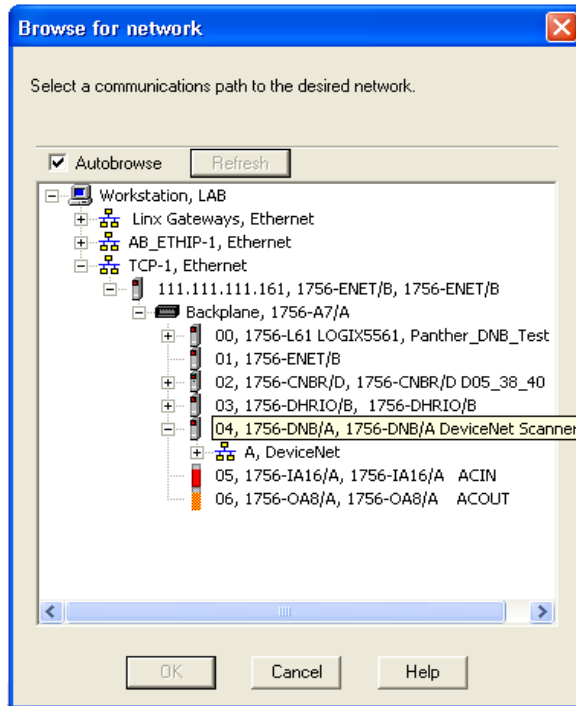

Figure 4-18: Browse for network
2. Select the appropriate network path. In this case (Figure 4-18), 1756-DNB/A DeviceNet Scanner is selected.